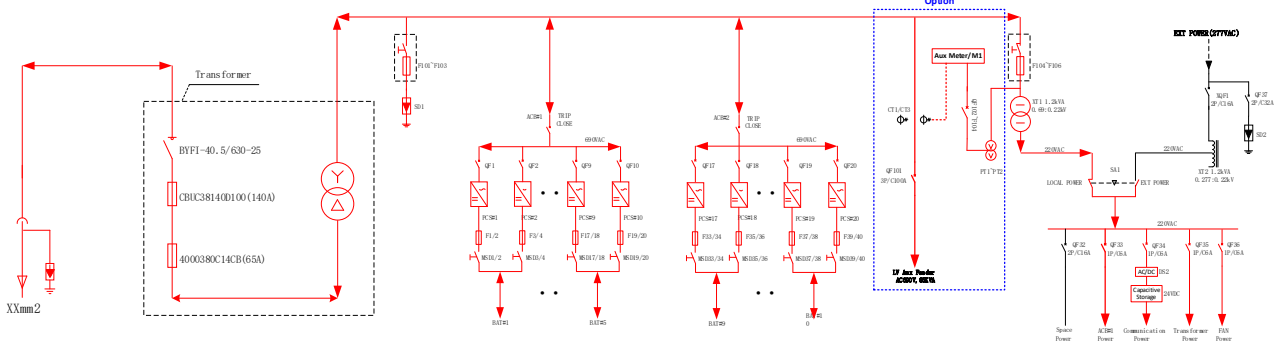

Figure 3-23 Power on state diagram -2#
1. After the device is powered on normally, the power supply direction of the main power supply and auxiliary power supply is shown in the red line in Figure 3-23.